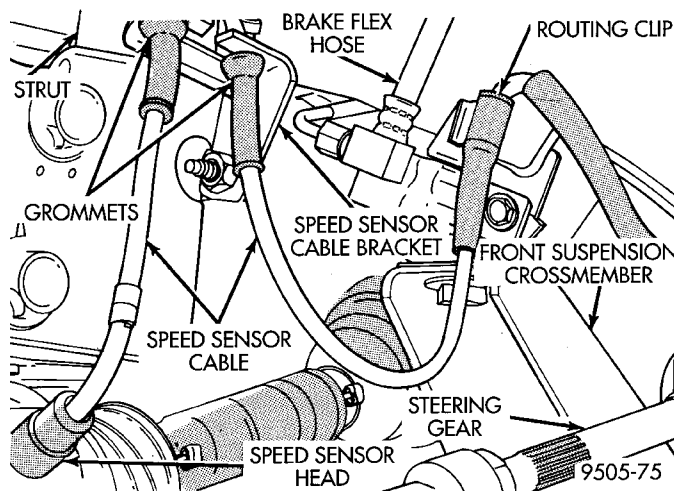

Fig. 32 Front Wheel Speed Sensor Cable Routing
(5) Carefully, remove sensor head from steering knuckle. If the sensor has seized, due to corrosion, **DO NOT USE PLIERS ON SENSOR HEAD**. Use a hammer and a punch and tap edge of sensor ear, rocking the sensor side to side until free.
(6) Remove the speed sensor cable assembly grommets from the retaining bracket (Fig. 32). Remove speed sensor cable routing clip from the frame of the vehicle (Fig. 32).
(2) Install the speed sensor cable assembly grommets into the retaining bracket (Fig. 32). Install speed sensor cable routing clip onto the frame of the vehicle (Fig. 32).